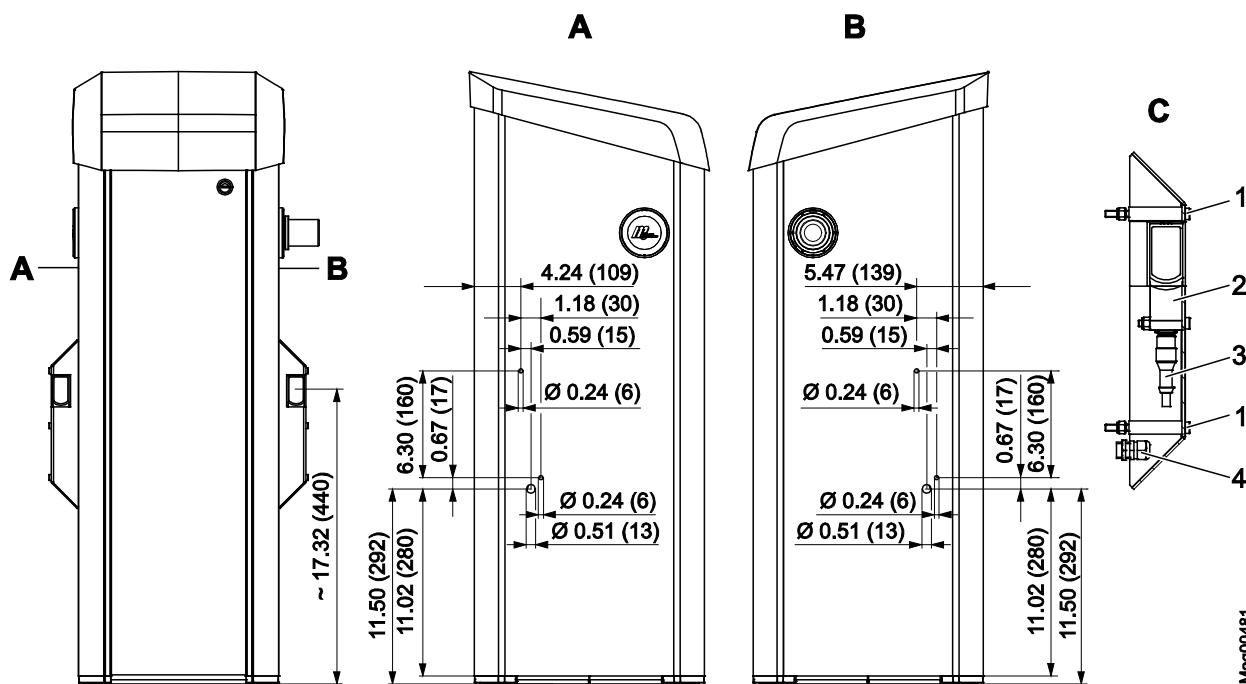

Fig. 25: Assemble of the transmitter's light barrier housing on the barrier housing
1. Drill holes for the light barrier housing according to Fig. 25.